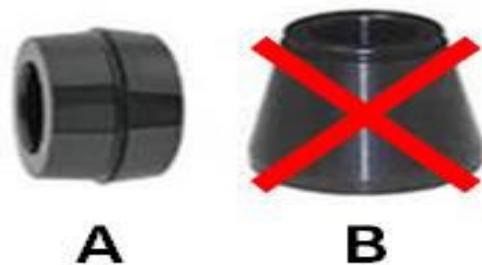

Figure 2. Example of a collet (A) vs. a centering cone (B).
- Ensure that the contact surfaces of the tire balancer flange and wheel are clean. It is mandatory that the appropriate centering collet (Figure 2, Image A)--not a cone (Figure 2, Image B)--and a five-finger style clamping plate (Figure 3, Image A) are used to mount the wheel on the balancer.